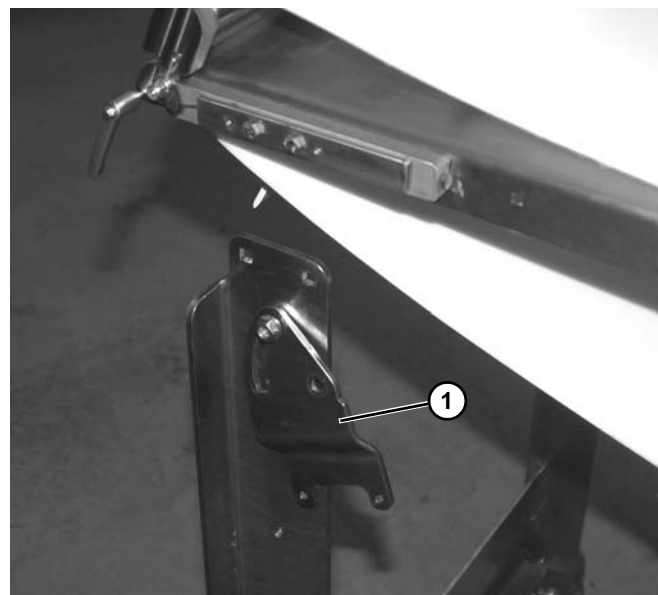

Figure 56
12. Lower stand bracket (**Figure 56, item 1**).